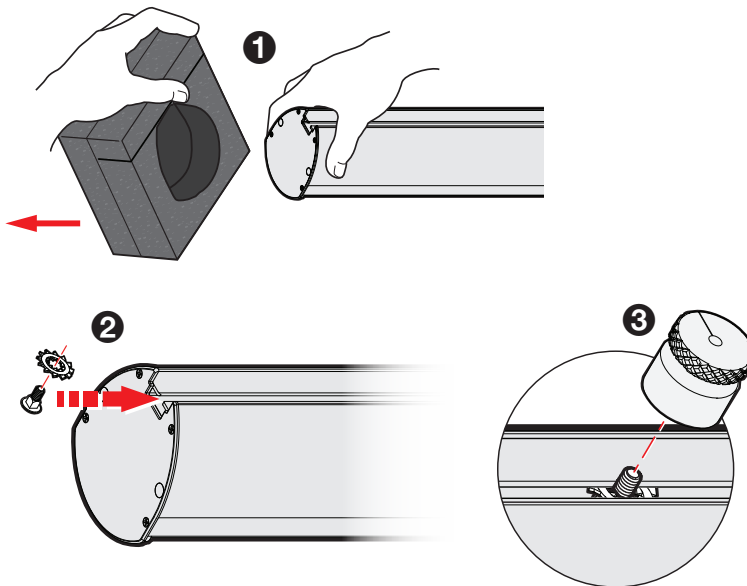

Figure 7. Slide Carriage Bolts into T-slot and Secure Knurled Knobs
2. Brace the top end of the speaker with your hand as you remove the top foam cap (see figure 7, **1**).